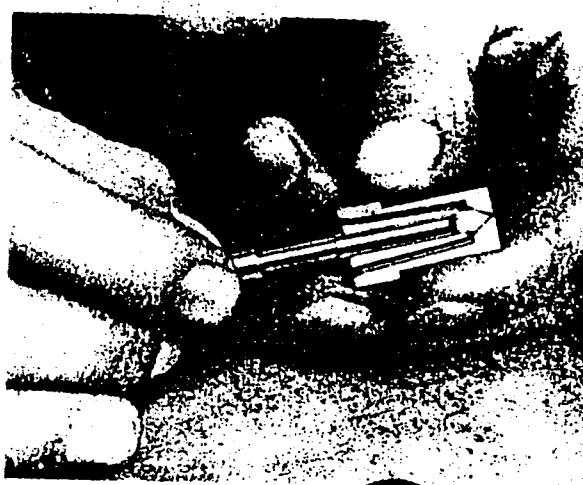

FIG. 129.
4. With the nozzle body seat scrape (ET.070) clean all carbon from the valve seatings by pressing the tool on to the seat and rotating the nozzle body by hand, see Fig. 129.